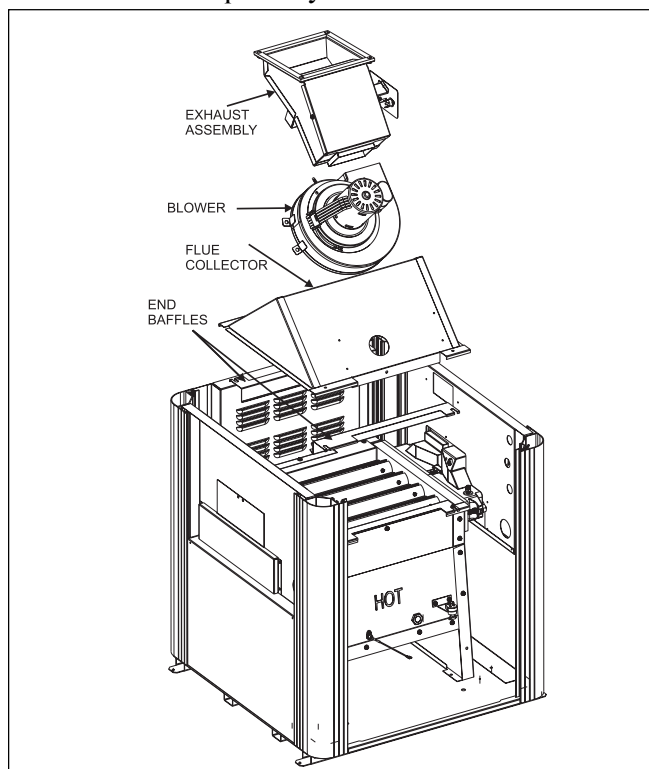

Figure 13. Remove components on top of heat exchanger
8. Label and disconnect the two (2) white wires from the manual reset high limit switch on the exhaust assembly.
9. Remove the exhaust assembly by pulling it up and away from the outlet of the blower (see Figure 13).
12. Remove the blower by removing the four (4) mounting screws that secure it to the flue collector.
13. Remove the screws that hold the flue collector to the combustion chamber. There are ten (10) on a model 400 and six (6) on a model 250. Lift the flue collector out of the heater.